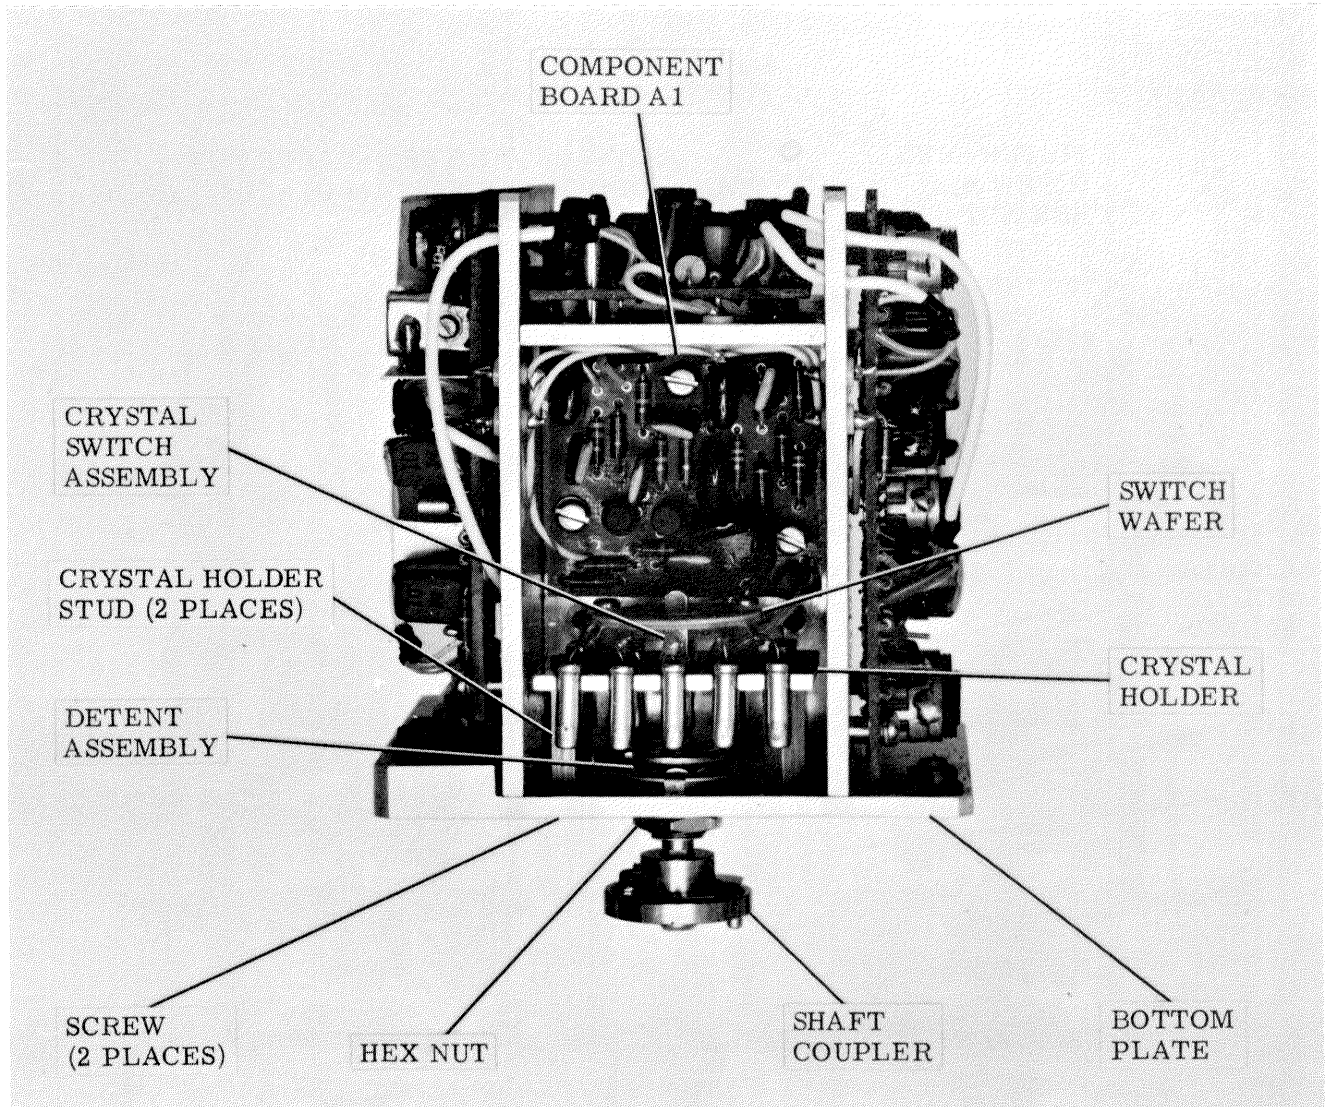

Figure 3-3. 100KC Synthesizer Electronic Subassembly, Component Location
3-10. To disassemble the major mechanical parts of the 100KC Synthesizer Electronic Subassembly (A2A6A2), proceed as follows (figure 3-3):
c. Loosen two setscrews on shaft coupler and slide coupler from shaft (figure 3-3).
d. Remove hex nut (figure 3-3) and lock washer securing detent assembly to bottom plate (figure 3-3).
e. Unsolder lead at A1 terminal 2 (see dust cover). Unsolder lead C2 at switch wafer (figure 3-3).